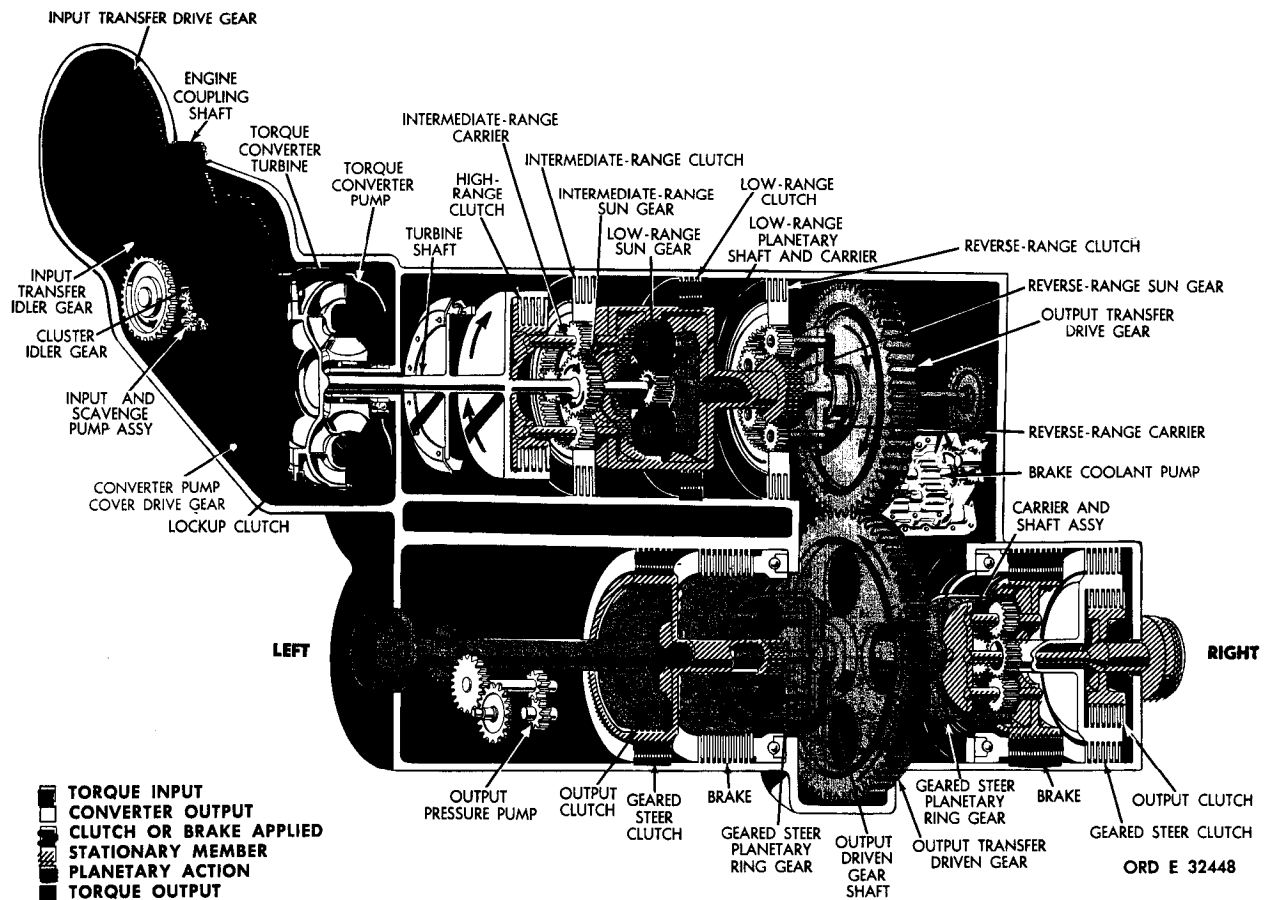

Figure 29. First-gear, full-right-steer torque path, converter operation
**53. TORQUE PATH - FIRST GEAR, FULL-RIGHT STEER, CONVERTER OPERATION (fig. 29)**